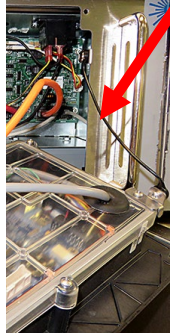

Figure 14
- Lower the controller and rest it on the bottom of the control box (see Figure 14). The black tether on the right will support the controller